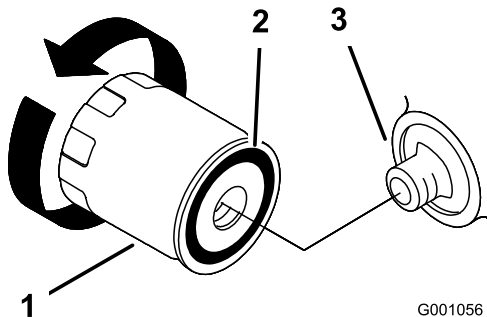

Figure 51
2. Turn the filter counterclockwise to remove it (Figure 51 and Figure 51).